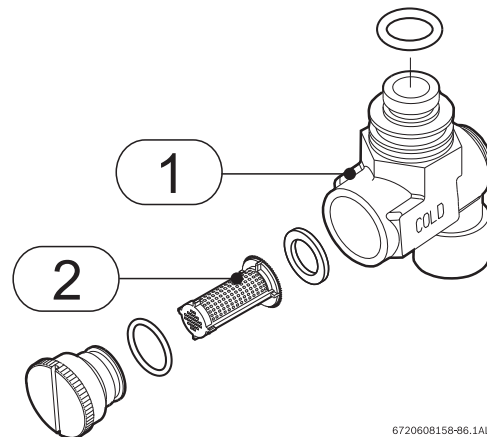

Fig. 57 Water filter
- Verify the inlet filter screen is clean and undamaged. The inlet water filter is located inside the cold water inlet fitting on the right side of the appliance (See Fig. 57, page 34). Close installer supplied cold water shutoff and loosen slotted screw on inlet fitting. Water will drain from the appliance. Remove cylindrical filter inside.